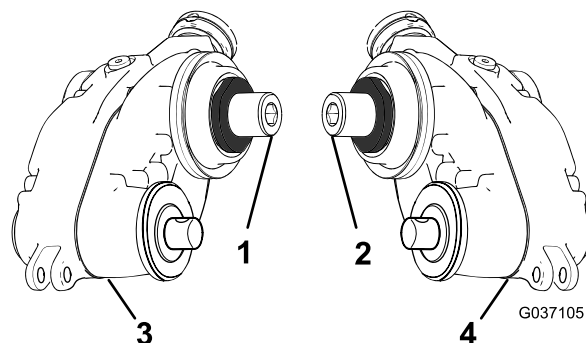

Figure 6
1. Identify the left-drive groomer drive boxes and the right-drive groomer drive boxes; refer to Figure 6.